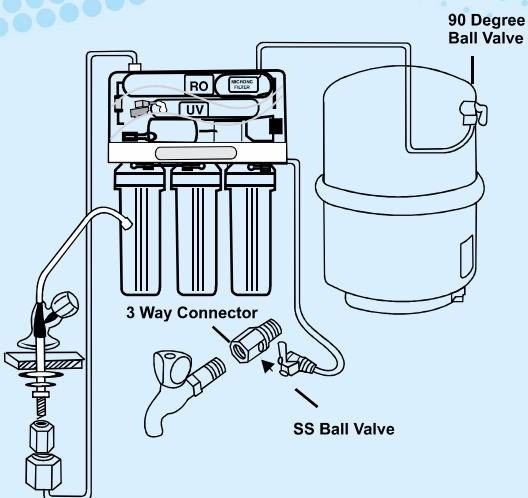

Figure 2
- Connect the 3-way connector to the raw water supply as shown in the figure 2. The threaded end of the 3-way connector is fitted in line with the raw water supply.The other end can be connected to a tap or can be plugged off if not required
* Tested & Certified by TUV-SUD South Asia (P) Ltd.